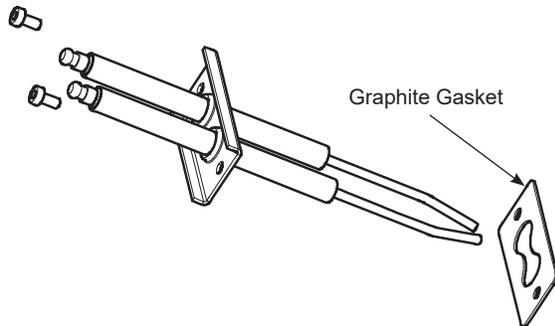

Figure 30: Igniter Electrode Assembly
- e. Install igniter as shown in Figure 30.